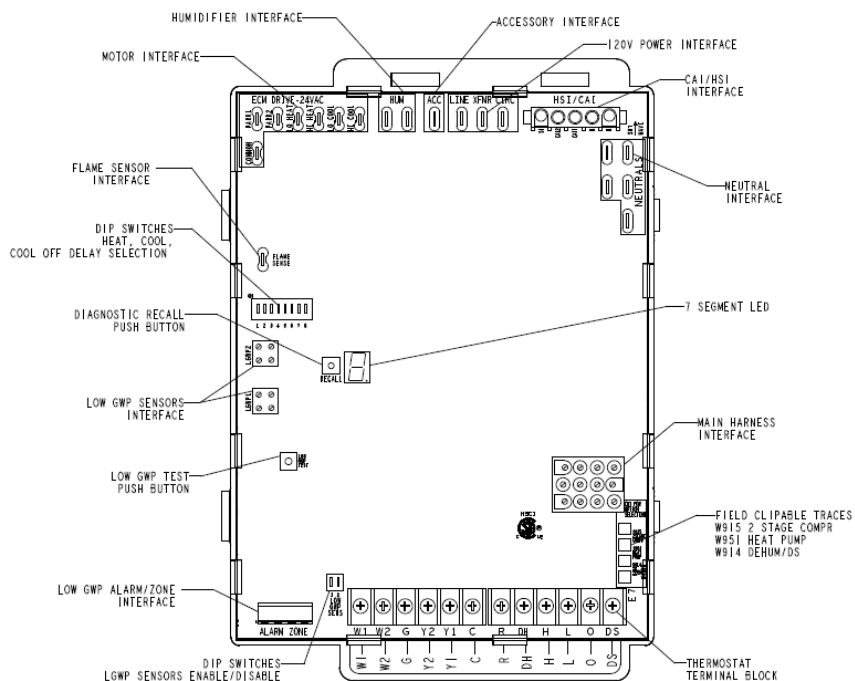

Figure 57.
7. One line voltage “ACC” 1/4” spade terminal is provided on the furnace integrated control. See Figure 57 for integrated control configuration. This terminal is energized when the indoor blower is operating. Any accessory rated up to one amp can be connected to this terminal with the neutral leg of the circuit being connected to one of the provided neutral terminals. If an accessory rated at greater than one amp is connected to this terminal, it is necessary to use an external relay.